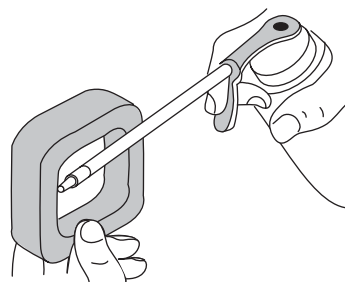

Fig. 28
4. Apply enough clean SAE 30 motor oil to lightly coat the filter (Fig. 28).